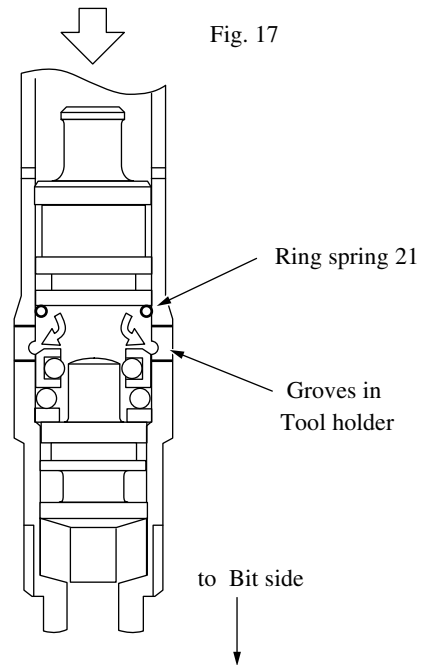

Fig. 18
4) Insert Ring spring21 in Tool holder by ? driver, etc., use Striker as a jig in the same way as 2), and then place Ring spring 21 into grooves of Tool holder. ( See Fig. 18)